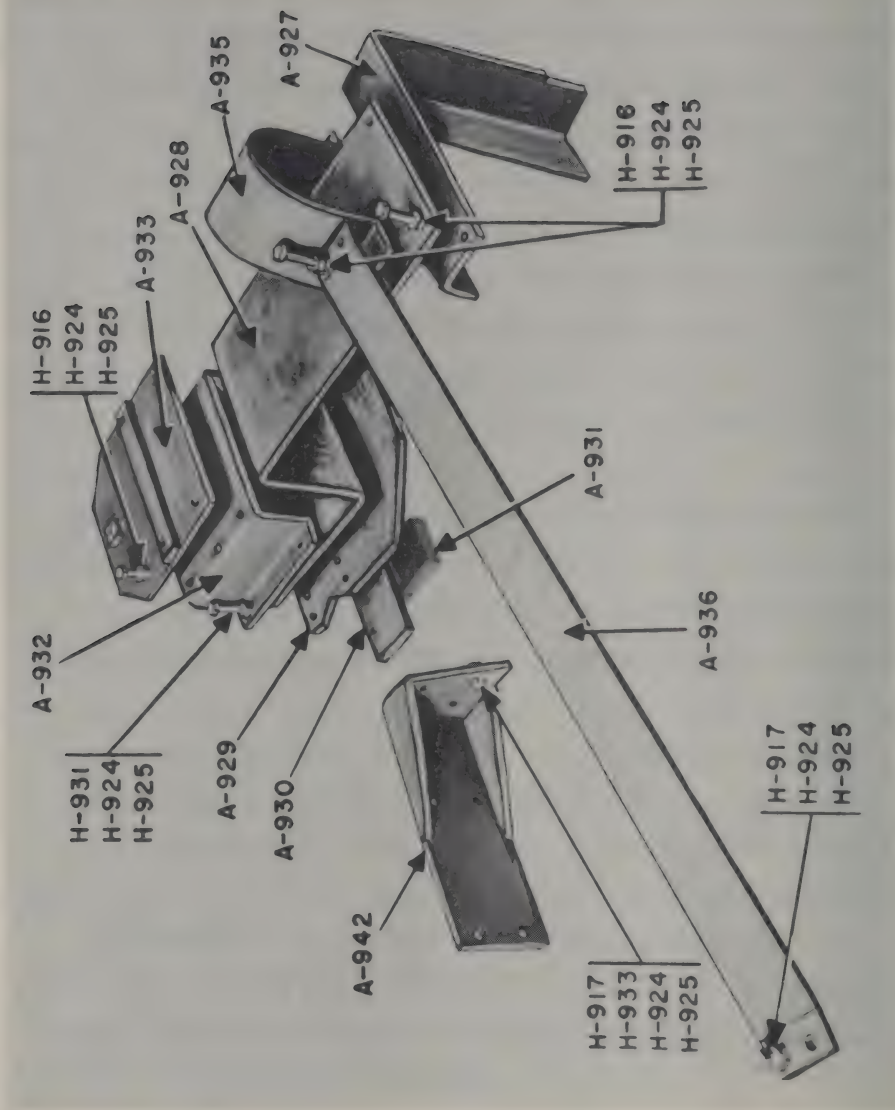

Figure 3-3. Telescopic Mast Mounting Parts for M-38 Truck.
(See figure 3-3.)
a. Bolt one leg of the lower mounting brace A-927 to the inside of the lower left end of the rear frame cross member of the truck, aligning Figure 3-3. Telescopic Mast Mounting Parts for M-38 Truck